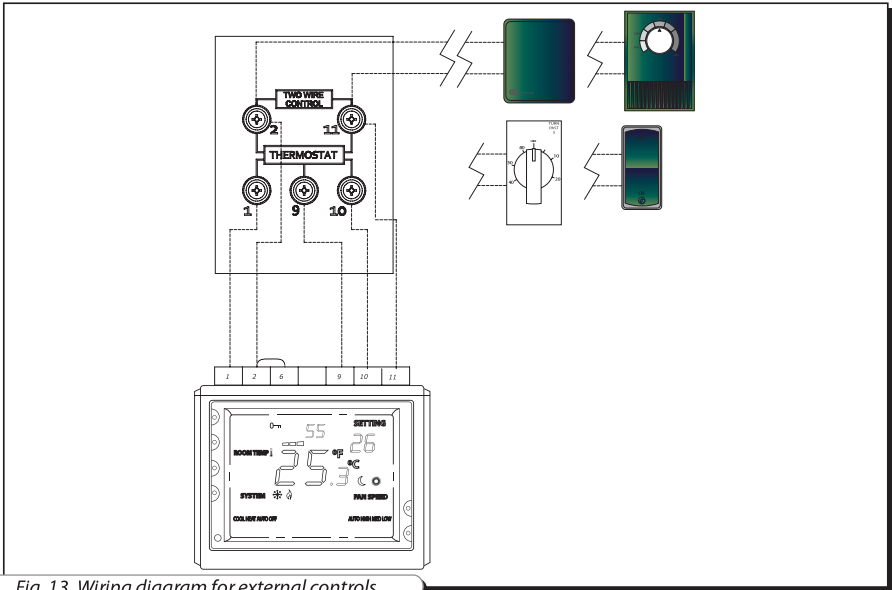

Fig. 13. Wiring diagram for external controls
Connect all the above external controls in compliance with the wiring diagram in fig. 13. The terminals (2) and (11) are designed for connection up to five control devices.